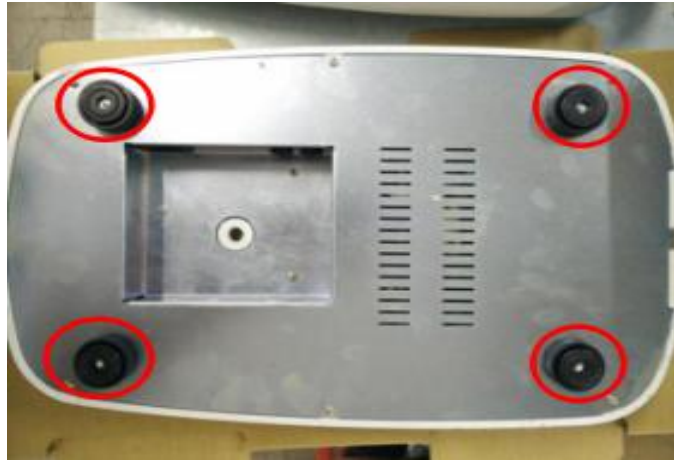

Fig 7.6-1
- 1.Screwing out the four adjust the casters and six M6*12 three combination Phillips screws for securing the bottom cover,remove the bottom cover,as shown Fig 7.6-1 .